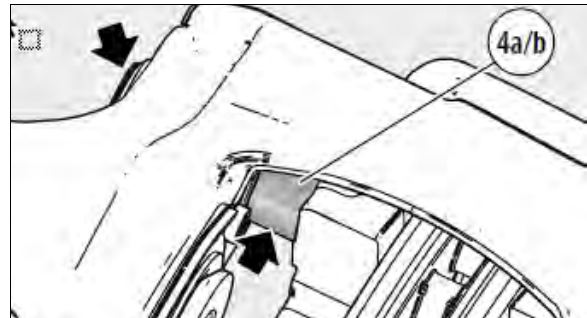

FIGURE 46: FREE GUIDE PIN OF DIRT
5. Push caliper inboard towards vehicle's center (see Figure 46).